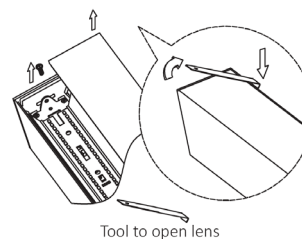

Fig. 1
1. Remove the lens with the tool provided and then remove the LED reflector strip. (Fig. 1 & 2)